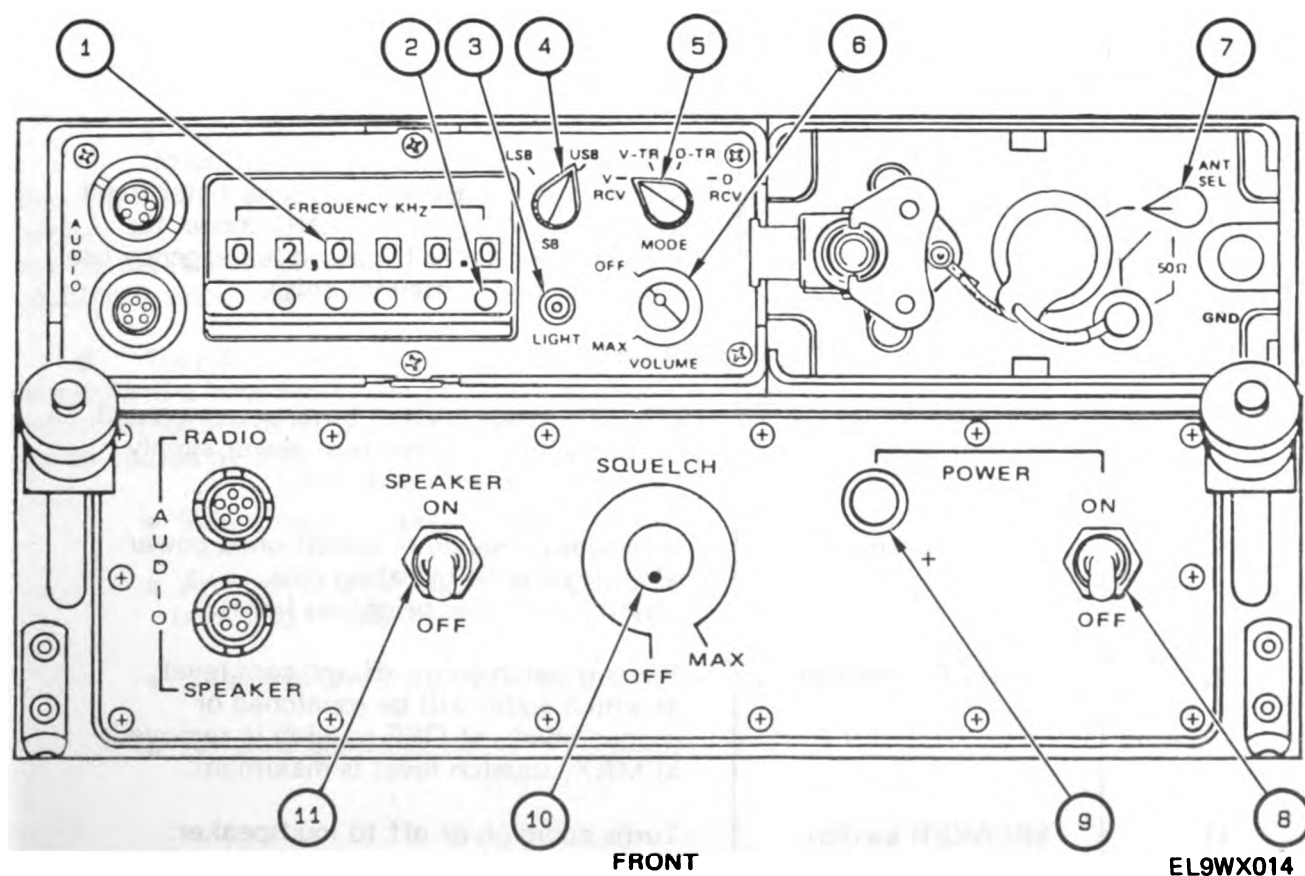

Figure 3-1. Controls and Indicators
a. Receiver/Exciter. The controls and indicators of the receiver/exciter (fig. 3-1) are listed in table 3-1.
b. Amplifier/Coupler. The controls and indicators of the amplifier/coupler (fig. 3-1) are listed in table 3-1.
c. Amplifier-Power Supply. The controls and indicators of the amplifier-power supply (fig. 3-1) are listed in table 3-1.